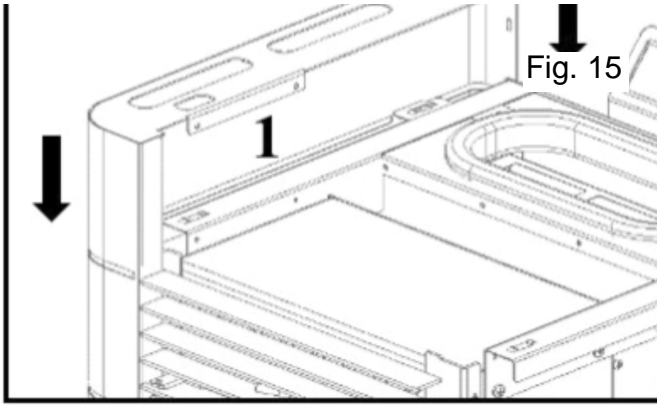

Fig. 15
c) Next, attach the side casing by sliding it downwards. During the assembly of the casing, make sure the flap on the top side (1) is placed overlapping the structure and, simultaneously, covering the rear side of the unit on the outside, as shown in Figure 15 & 16